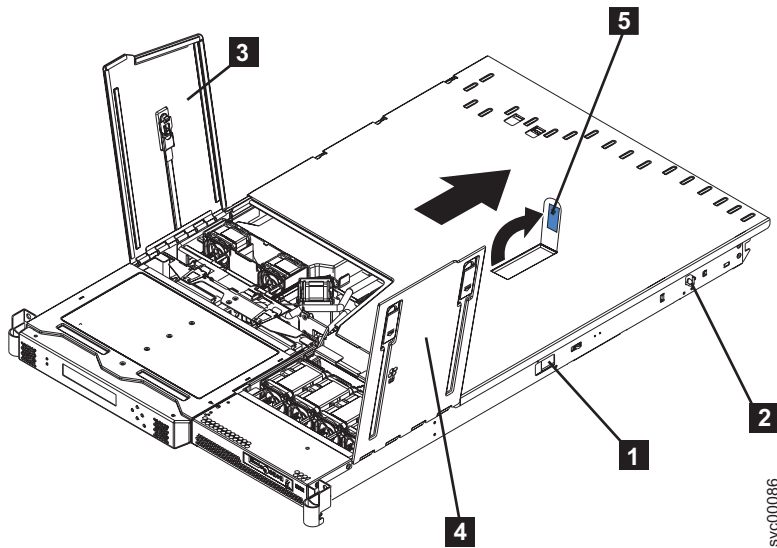

Figure 67. SAN Volume Controller 2145-8F2 or SAN Volume Controller 2145-8F4 with fan doors open
- b. Slide both side release latches (left and right) toward the front of the node. Make sure that both rail-lock pins (**2** in Figure 67 on page 85) are in a vertical position, pull the node out, and remove it from the rack.